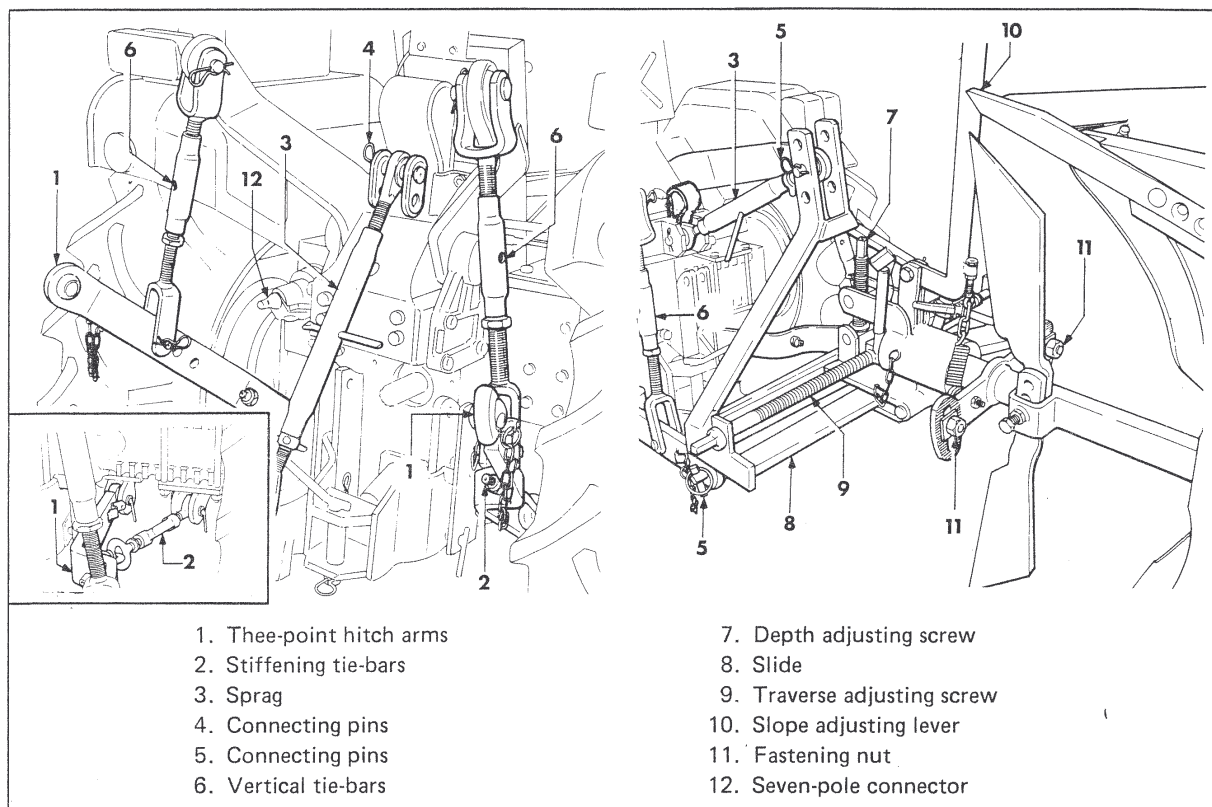

Figure 15. Plough connection
(see fig. 15)
3. Connect the tractor electrical system to the trailer through a 7-pole connector (fig. 15, item 12).